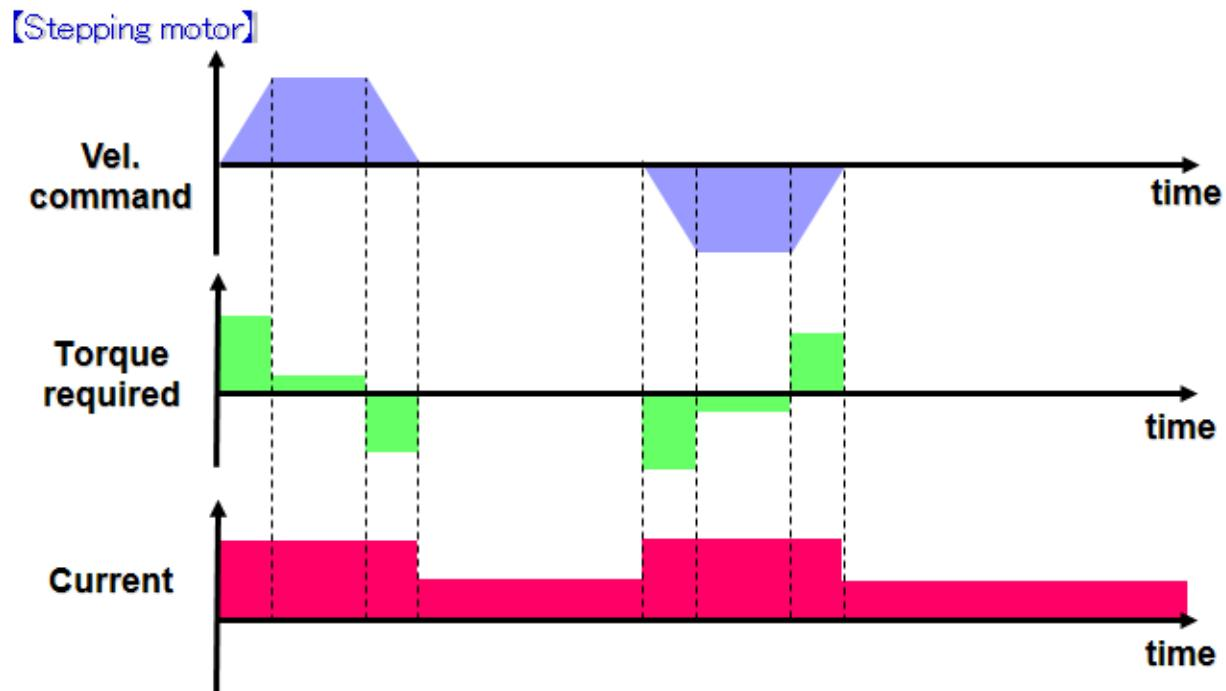
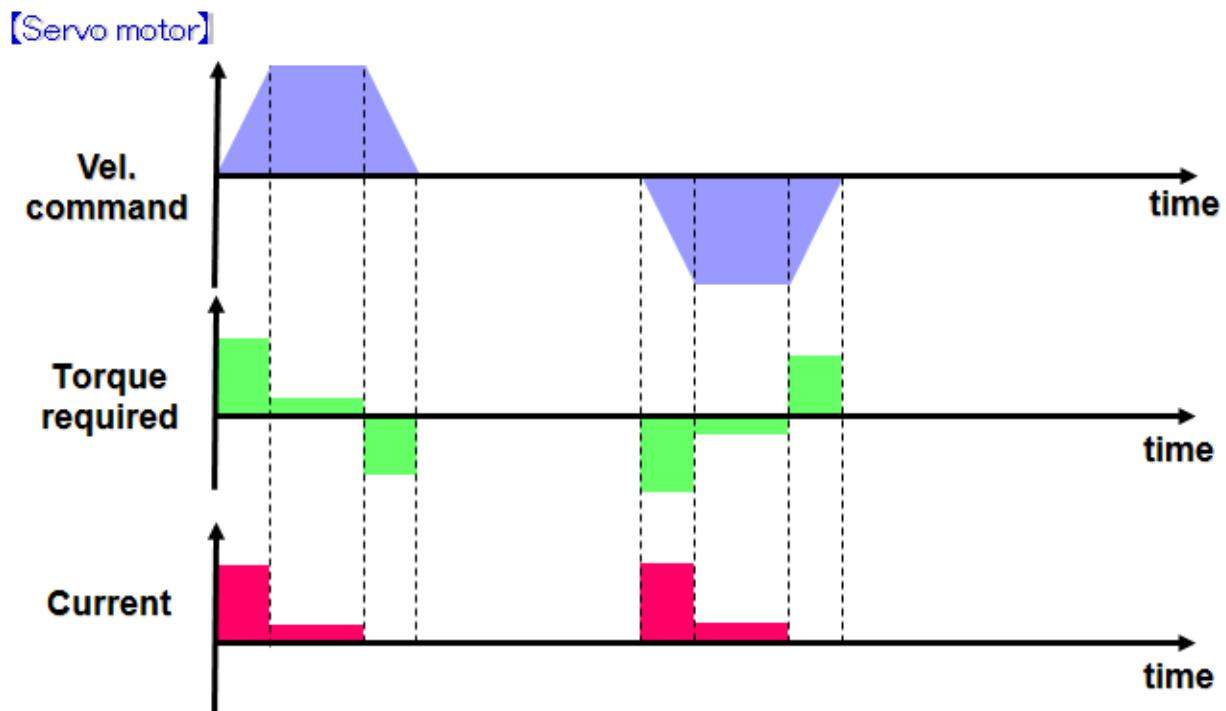

Figure 3
Figure 4
- **Higher Efficiency and Energy Savings** – A significant amount of energy can be saved with a servo as compared to a stepper system. Stepper systems operate by sending full rated current in sequence to the motor windings while the motor is moving, regardless of the application requirements. Most stepper systems have an idle current reduction setting which allows the current level to be reduced automatically when the motor is not moving, typically to 50% of full rated current. Servo motors only use the current required in the application at any given point in time. Figure 3 shows the amount of current used by a stepper motor during a common move profile: move one direction, dwell, move the other direction. Figure 4 shows the amount of current used by a servo motor for the same move profile. The stepper motor uses full rated current while the motor is moving and uses  $\frac{1}{2}$  rated current while the motor is idle. The servo motor uses much less energy because it only uses the current required.